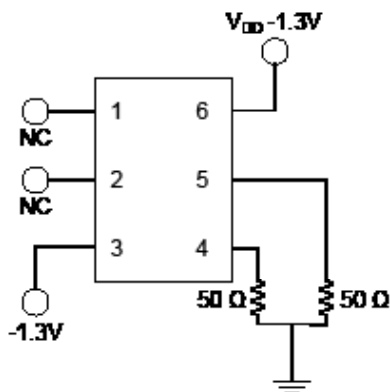
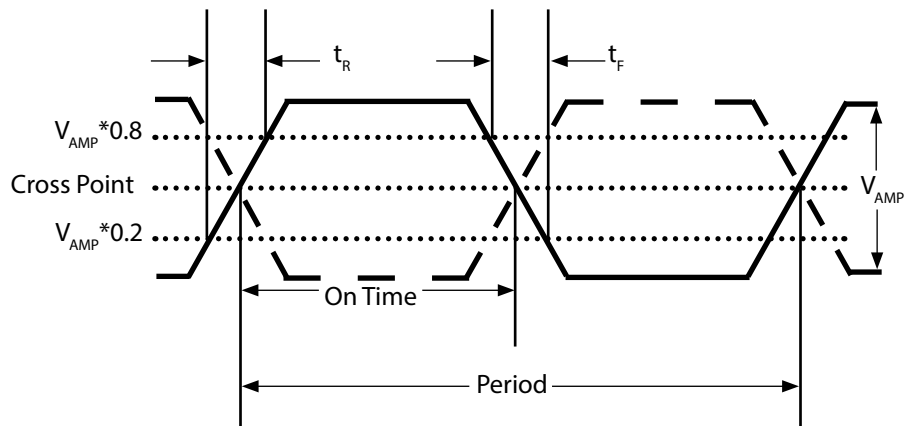
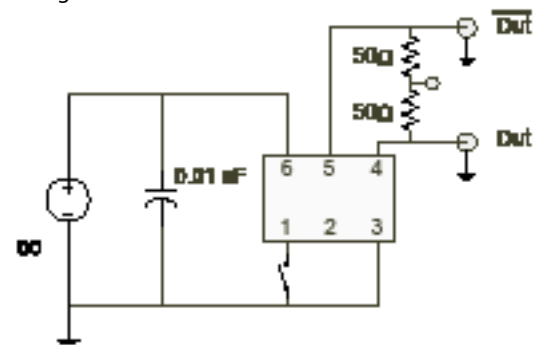

Figure 1.
Figure 2.
Figure 3.
3. Figure 1 defines the test circuit and Figure 2 defines these parameters.
3. Figure 2 defines these parameters and Figure 3 defines the test circuit.